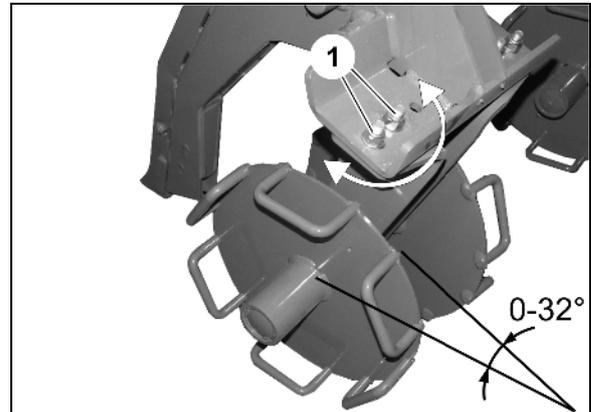

Fig. 104
1. Undo both screw unions (Fig. 104/1) on a roller.